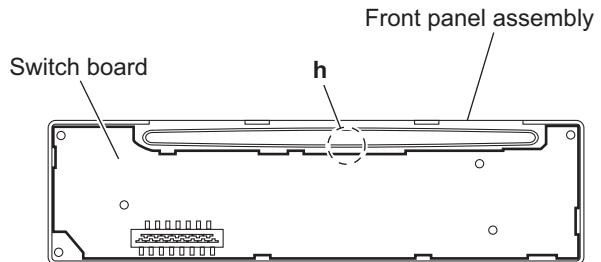

Fig.11
- (3) Release the joint **h** and take out the switch board from the front panel assembly. (See Fig.11)